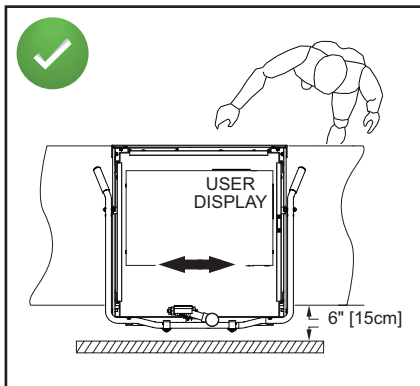
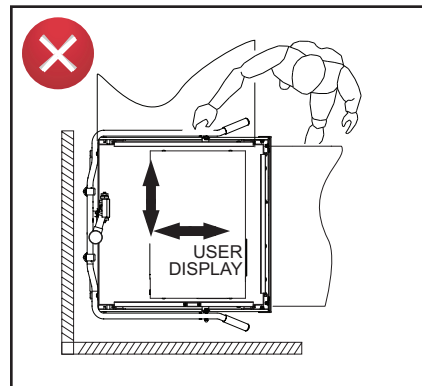
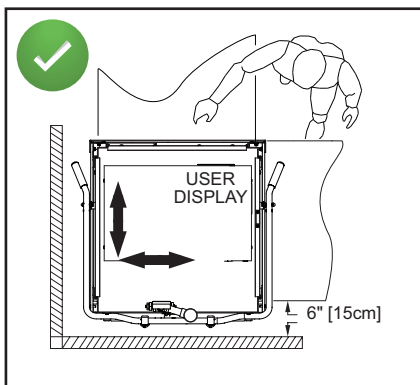

Fig. 4 - Correct Orientation for Straight-through Operation
Fig. 5 - Incorrect Orientation for Corner Operation – Does not allow access to service critical components
Fig. 6 - Correct Orientation for Corner Operation
3. Position the dishwasher as shown below and refer to the next page for instructions on changing the dish rack guides and door operation (see Fig. 4, Fig. 5, and Fig. 6).